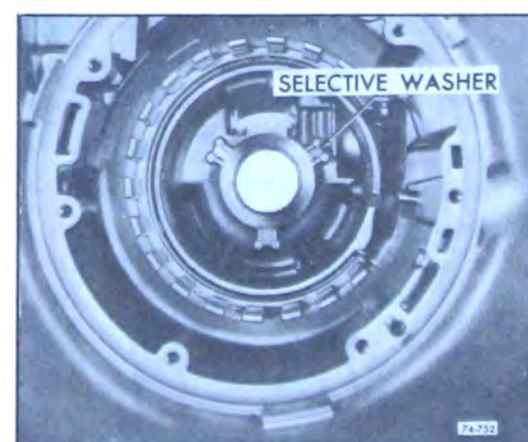

Figure 74-556
19. Remove rear unit selective washer from the transmission case. See Figure 74-556.